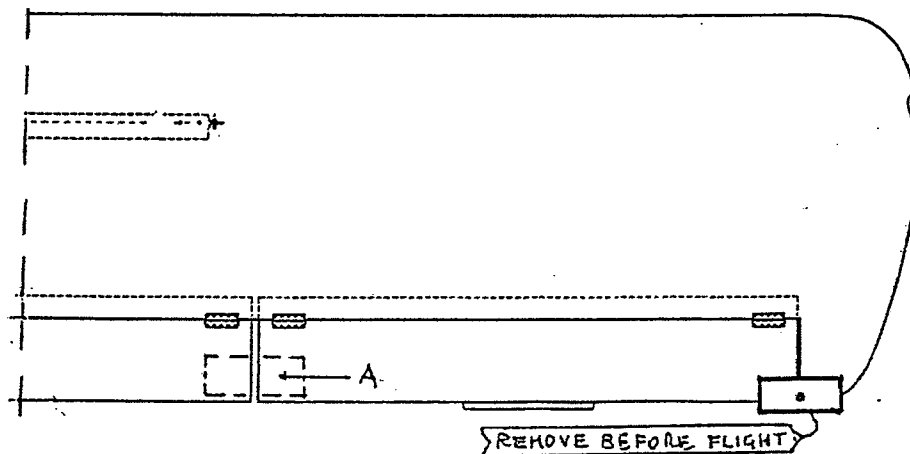

Fig. 8-1 - AILERON LOCK
- Lock the ailerons with the proper aileron locks supplied with the aircraft in the position shown in Fig. 8-1